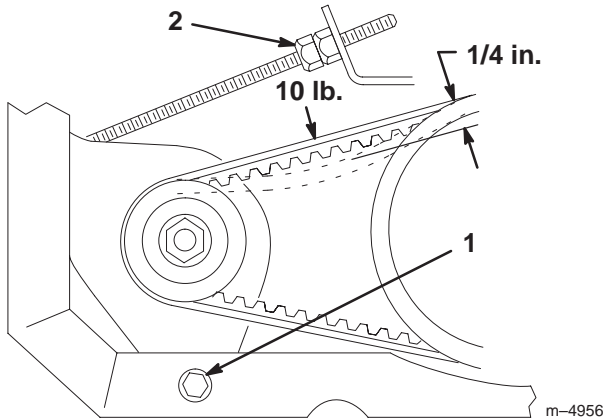

Figure 26
2. Loosen the starter generator pivot bolt (Fig. 26).
3. Adjust the jam nut on the starter rod (Fig. 26) until the belt flexes 1/4 in. with 10 lb. of force.
4. Tighten the starter generator pivot bolt (Fig. 26).